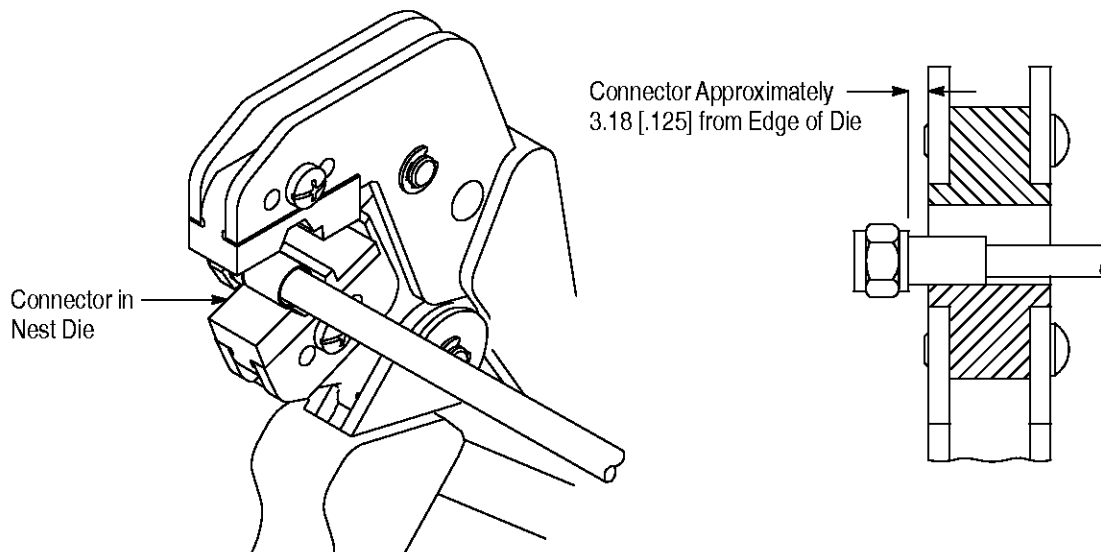

Figure 3
1. Place connector in the nest die so that the shoulder on the connector is approximately 3.18 [.125] from the edge of the die. See Figure 3.